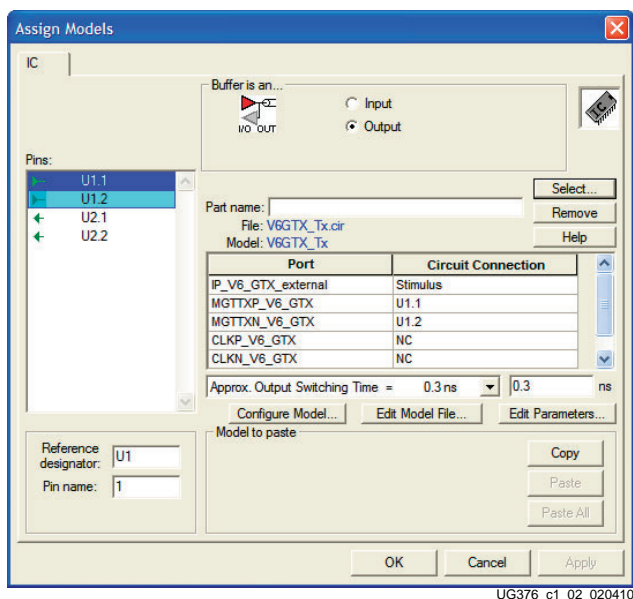

Figure 1-2: Assign Models
1. Double-click on U1 to open the **Assign Models** dialog box and single-click on the **Configure Model** button, as shown in Figure 1-2.